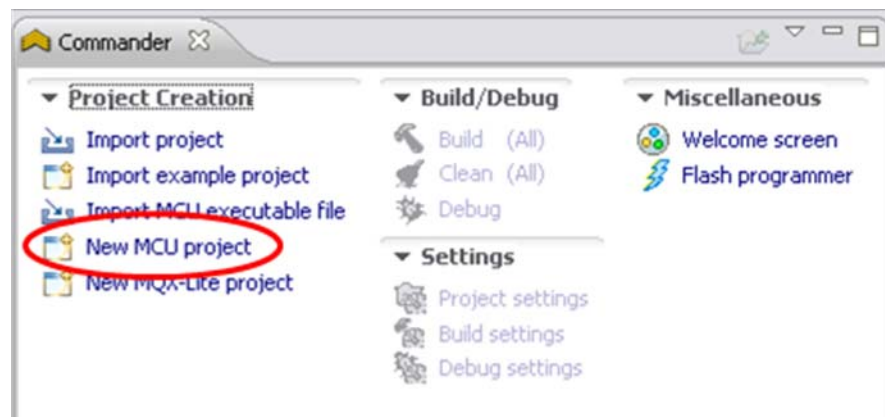

Figure 9. Commander window
7. The Commander window includes an option to create a new project for MCU. Figure 9 shows this option.